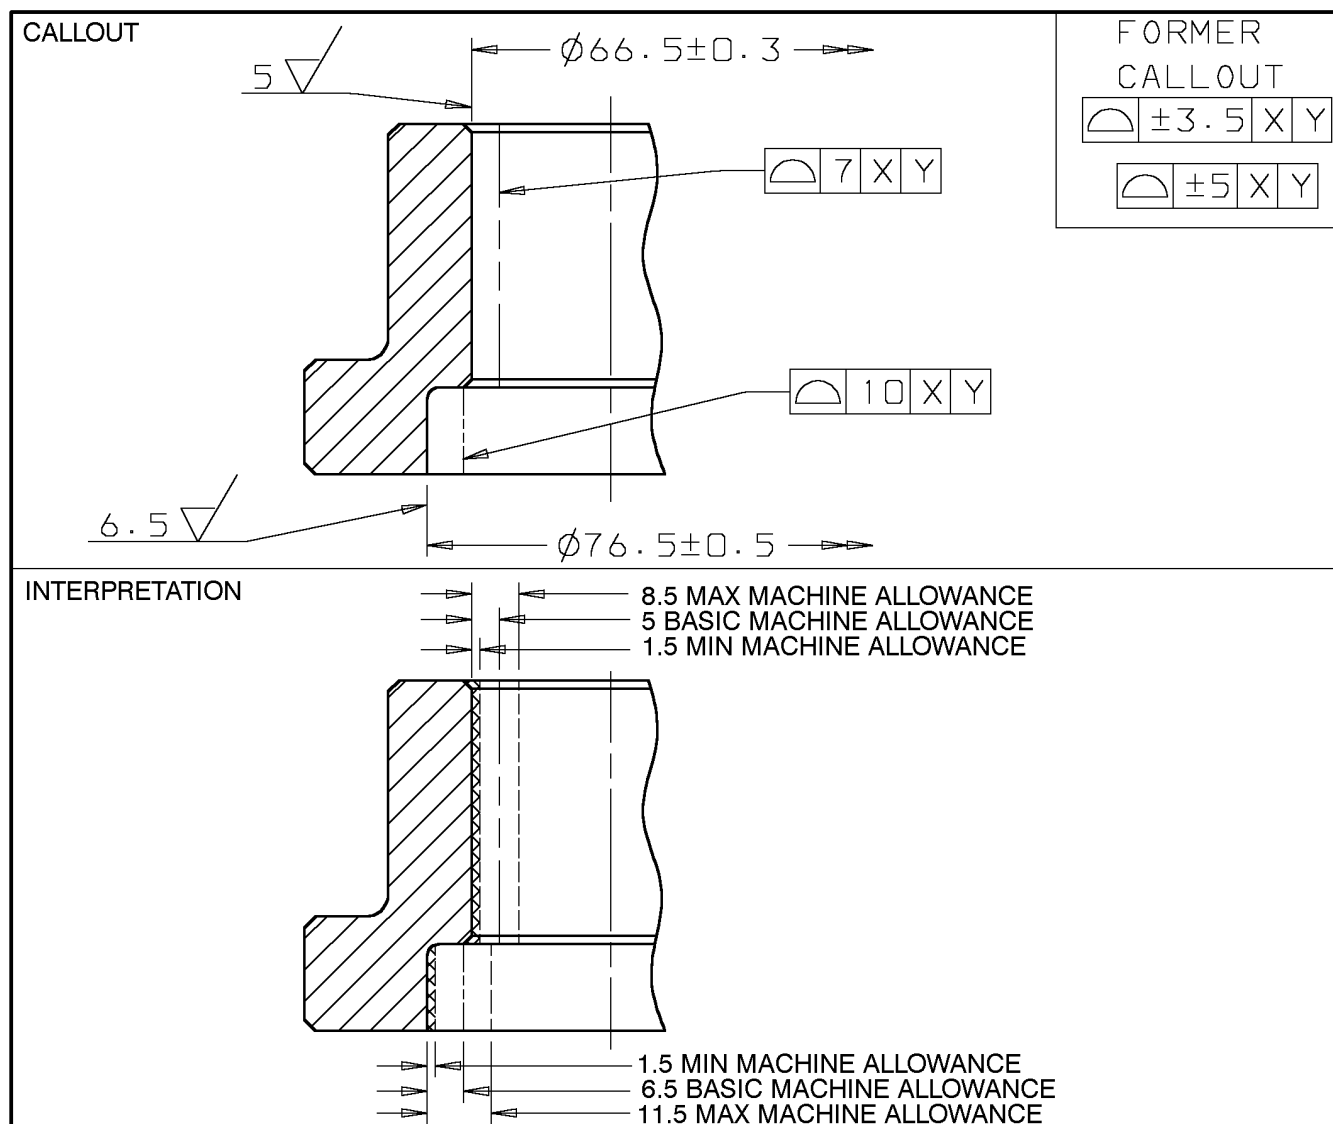

Figure 33 - Stepped Holes That Allow Straight Punch
**13.2 Straight Punch Permitted for Stepped Holes** - The callout in Figure 33 shows two machined internal diameters with special machine allowances and profile tolerances to permit a straight punch.